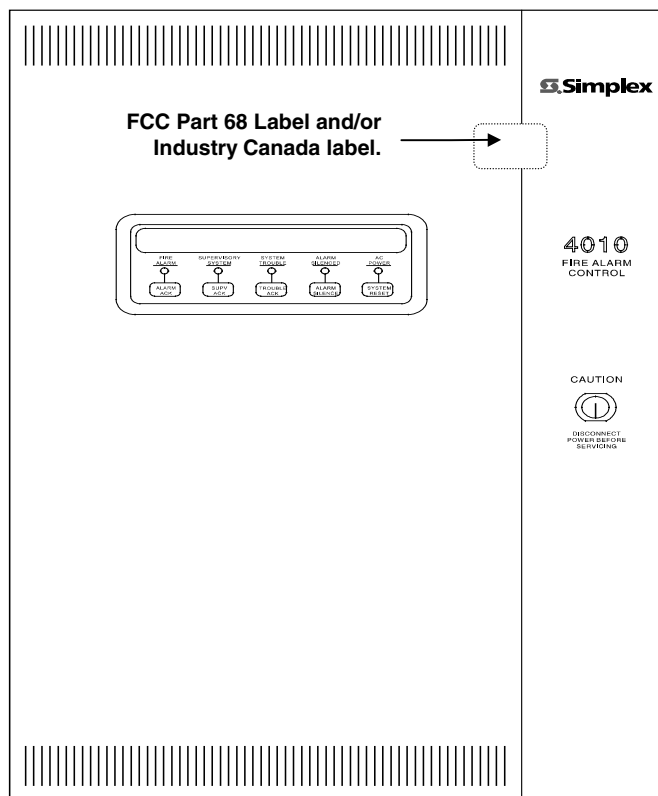

Figure 1. Placement for FCC Part 68 and Industry Canada Labels
1. Refer to Figure 1 and locate the LCD Display and the touch pad keys below it.
2. Notice the placement of the labels above and to the right of the LCD display and the touch pad keys in Figure 1.
3. Place the FCC and Industry Canada labels on the 4010 FACP door in the same position as that shown in Figure 1.